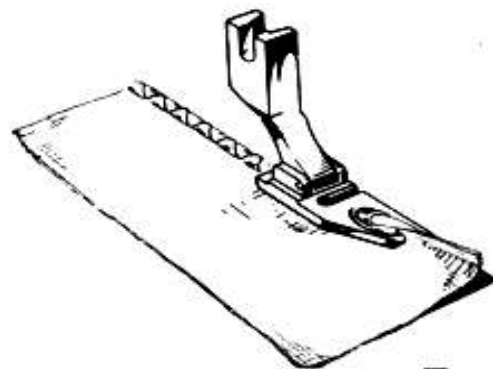

Fig. 36
### b) NARROW ROLLED EDGES (Fig. 36)
*Presser foot*: zigzag hemming foot, (Fig. 36, special accessory upon request and against payment).